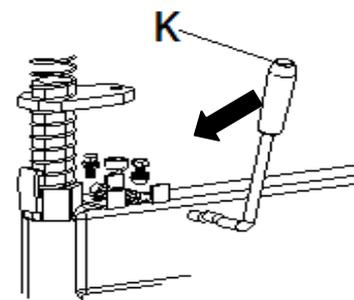

Fig 9
2. Move demounting/mounting head close to edge of rim, keep a 2-3mm gap between demounting/mounting head and rim plane, operate locking handle (K, Fig 9) to lock vertical arm, adjust screw bolt in column to position swing arm, make sure 2-3mm gap between demounting/mounting head and rim edge side